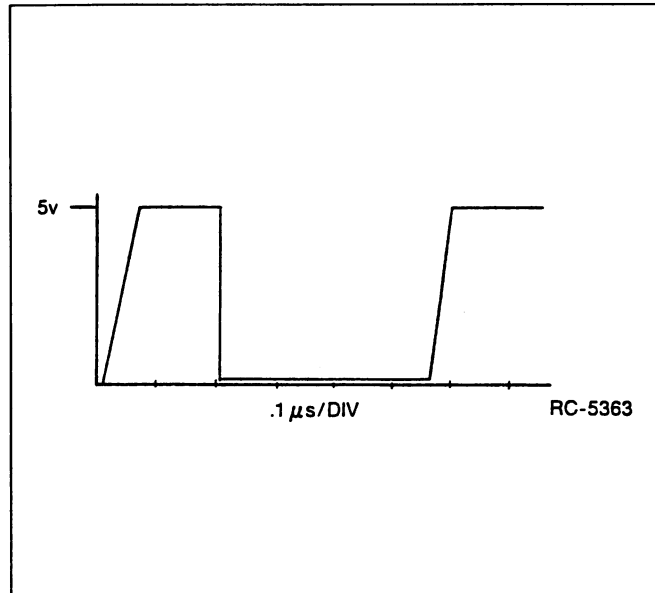

Figure 3 - ALE Clock
3. Check for oscillator activity by examining the ALE clock on U701, Pin 30 (see Figure 3). If not present, examine the system clock on U701, Pin 18 (5 volts pp at 11.059 MHz). The presence of the system clock, but no ALE may indicate a bad U701. If the system clock is not present, suspect Y701 and related components.